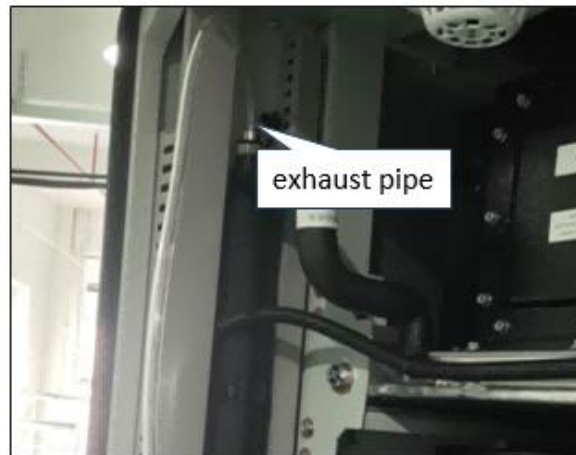

Figure 7.5 Exhaust Pipe Connection
Step 3: Insert the exhaust pipe into the top left side of the battery compartment liquid cooling line and the other end of the exhaust pipe into the coolant container as shown in Figure 7.5.